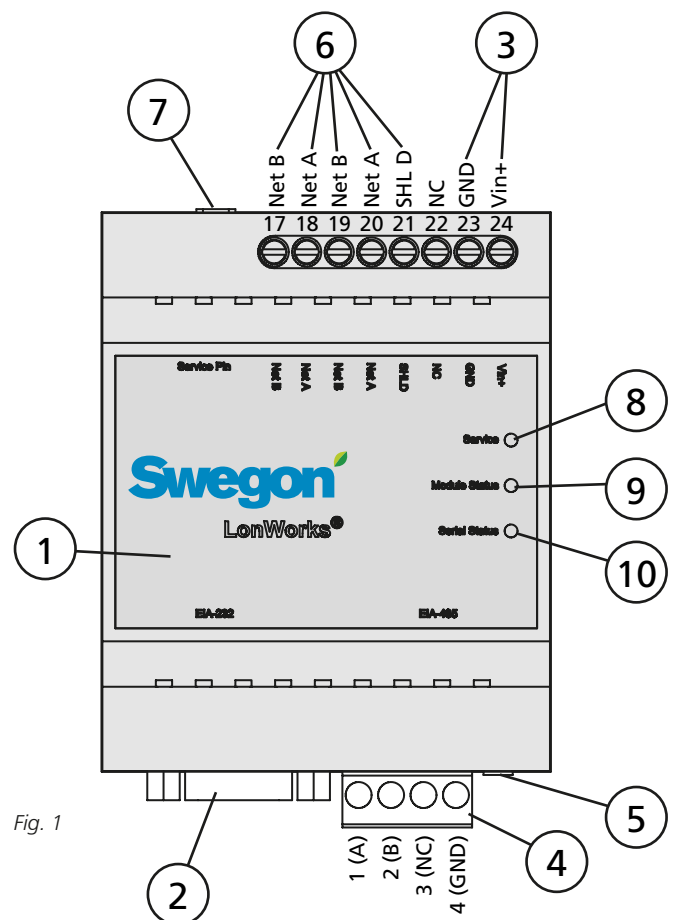
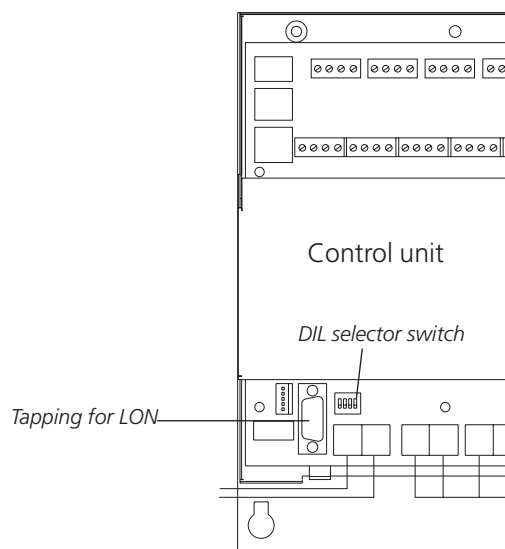
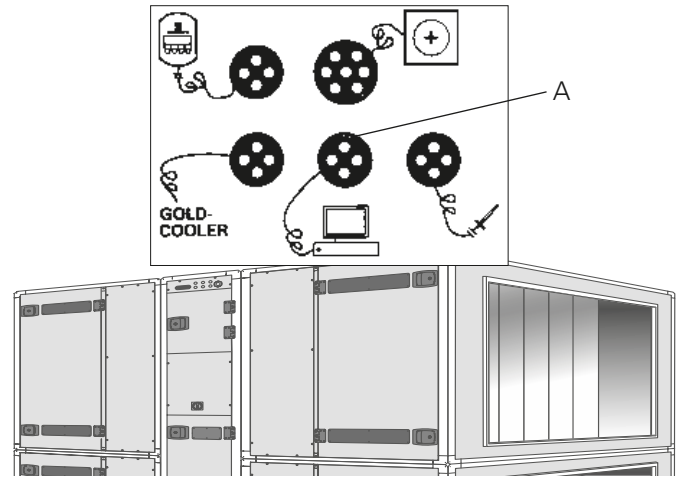

Fig. 1
Fig. 7
Fig. 8
The DIL switch must be in the ON position (see Fig. 1, Item 5).
Connect the network from the GOLDen GATE communication unit (Item 2 in Fig. 1) to the control unit in the GOLD (tapping for LON in Fig. 7). Use the data communication cable supplied.
DIL switch no. 4 on the GOLD air handling unit's control unit must be in the ON position, and DIL switch no. 3 must be in the OFF position (see Fig. 7).
Connect the 24 V AC supply voltage to terminals Vin+ (24) and GND (23). Supply voltage can be obtained from the control unit of the air handling unit, see below and Fig. 8.
Connect the network from the GOLDen GATE communication unit to the control unit of the GOLD unit. Use the communication cable supplied. The communication cable has a 4-pin round quick connector and a 9-pin D-subconnector. Connect between Connection A in Fig. 8 and Item 2 in Fig. 1.